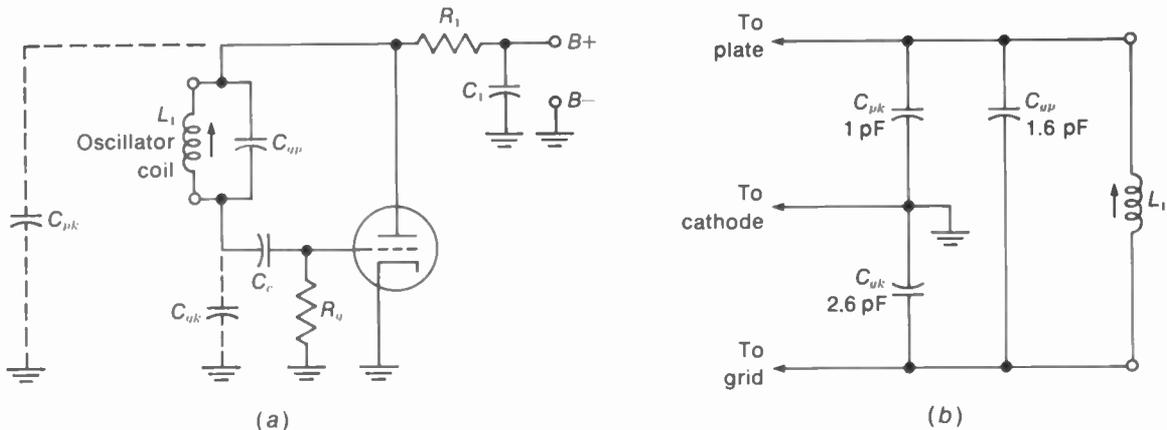

FIGURE 24-17 (a) ULTRAUDION OSCILLATOR AS A MODIFIED COLPITTS CIRCUIT. (b) HOW TUBE CAPACITANCES FORM VOLTAGE DIVIDER FOR FEEDBACK.
**The oscillator resonant frequency.** The output of the oscillator is at the resonant frequency ( $f_r$ ) of its tuned circuit. Using  $f_r = 1/(2\pi\sqrt{LC})$ , we can calculate the resonant frequency in Fig. 24-17. Assume  $L_1$  is  $0.85 \mu\text{H}$ . The total capacitance across  $L_1$  is  $C_{up}$  in parallel with the series combination of  $C_{up}$  and  $C_{pk}$ . For 2.6 pF in series with 1 pF, the combination is 0.7 pF. This value added to the parallel 1.6 pF makes the total  $C$  equal to 2.3 pF.